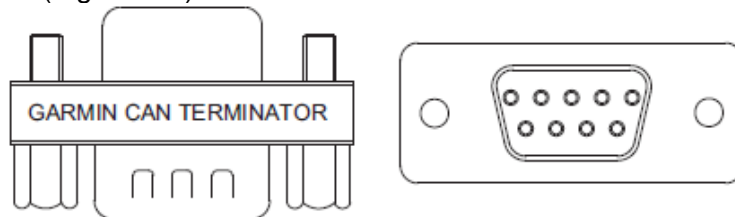
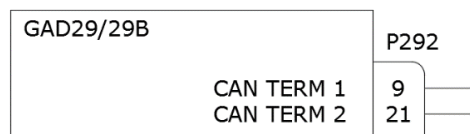

Figure 3-4 CAN Bus Termination (011-02887-00) for G5, GMU 11, and GAD 13
Figure 3-5 CAN Bus Termination for GAD 29/29B/29D
- The G5, GMU 11, and GAD 13 connector kits provide a 9-pin termination adapter that provides termination when attached to the device's main connector. The termination adapter contains a 120Ω resistor that is connected between pins 1 and 2 (Figure 3-4).
- The GAD 29/29B/29D contains a 120Ω resistor inside the unit that provides termination when the two CAN TERM pins are connected together (Figure 3-5). Alternatively, the GAD 29/29B/29D can be terminated externally using a termination adapter, Garmin P/N 011-02887-00 (Figure 3-4).